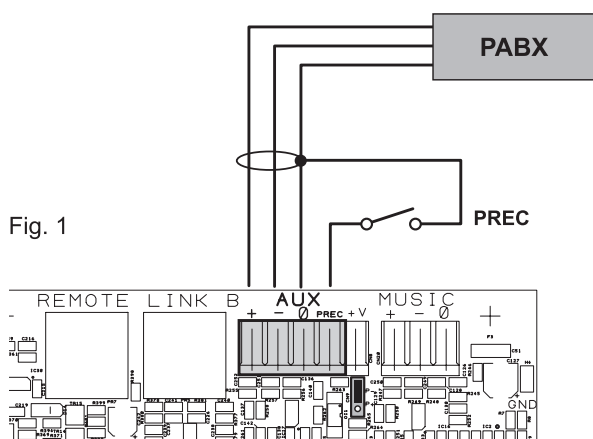

Fig. 1
The **AUX** terminals (14) are available for connecting auxiliary sources (e.g. a PABX or a base for announcements with a precedence contact). In the first case, to which Fig. 1 refers, it is necessary to fit a jumper onto connector CN9 in position “P-”. In the second case, on the other hand, using a pre-amplified station of the MBT 1101 range, connection between the AUDIO OUT socket of the base and the AUX terminals has to be made as indicated in Table 1 and the jumper will have to be positioned on “P+”. NOTE: Selection between modes P- and P+ must be made also via the menu (**AUDIO SETTING > set>AUX, CHIME**, page 27).